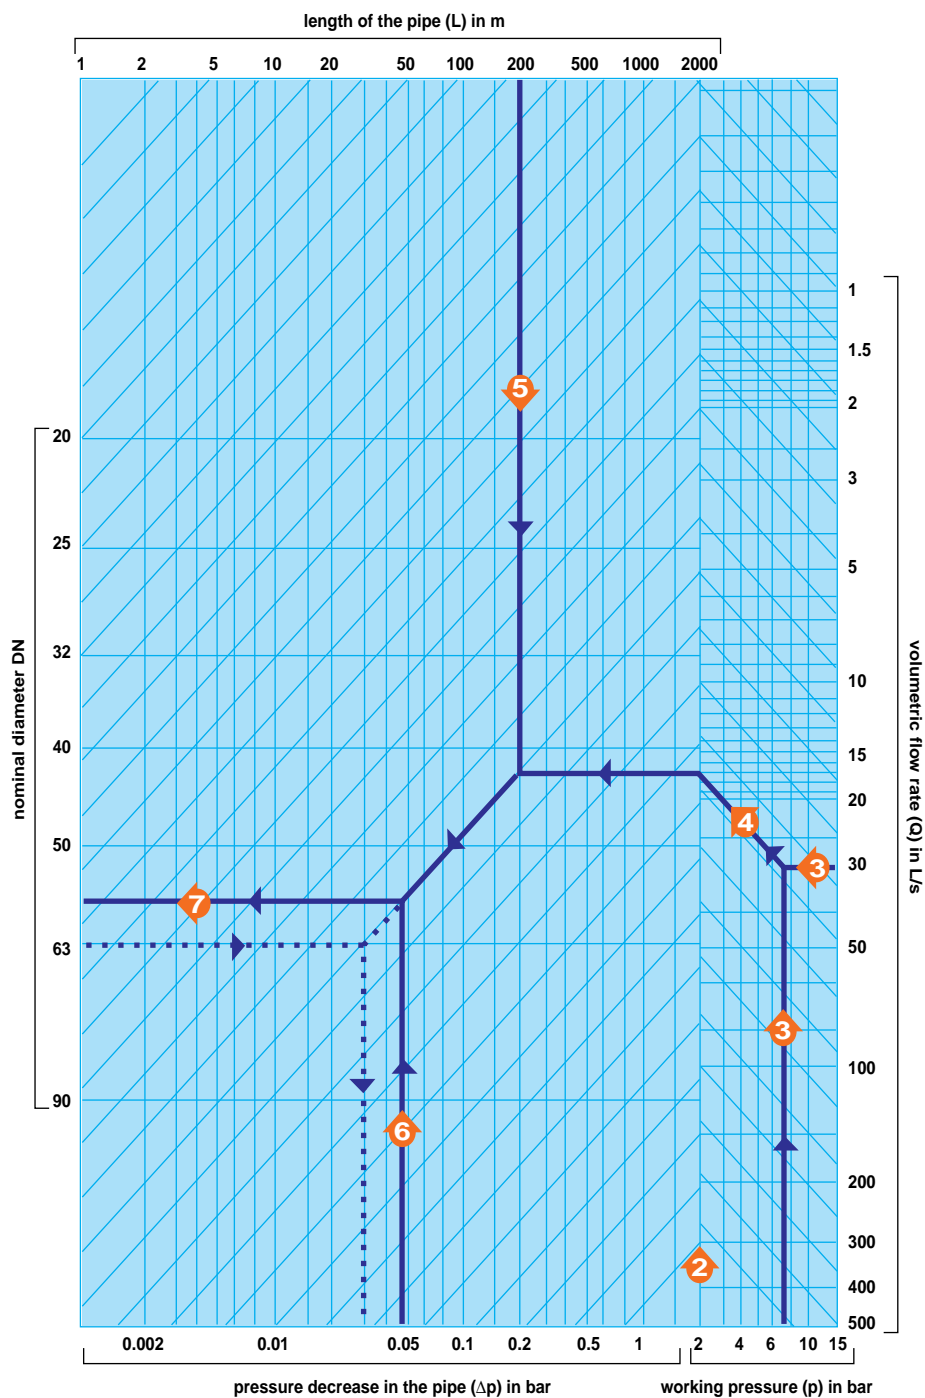

Figure 1
The use of a nomogram is a quicker and easier method to source information (see Figure 1). In this nomogram the Pressure Decrease (Δp) is indicated in bar, the Working Pressure (p) in bar, the Volumetric Flowrate (Q) in L/s, the Pipe Length (L_E) in m, and the Pipe Nominal Diameter DN.
The table below indicates the approximate pressure loss for fittings in terms of an equivalent length of straight pipe in metres. For each pipeline fitting, add the equivalent length of pipe to the original length of pipeline. This length is used for the calculation of the equation above or for the nomogram (Figure 1).